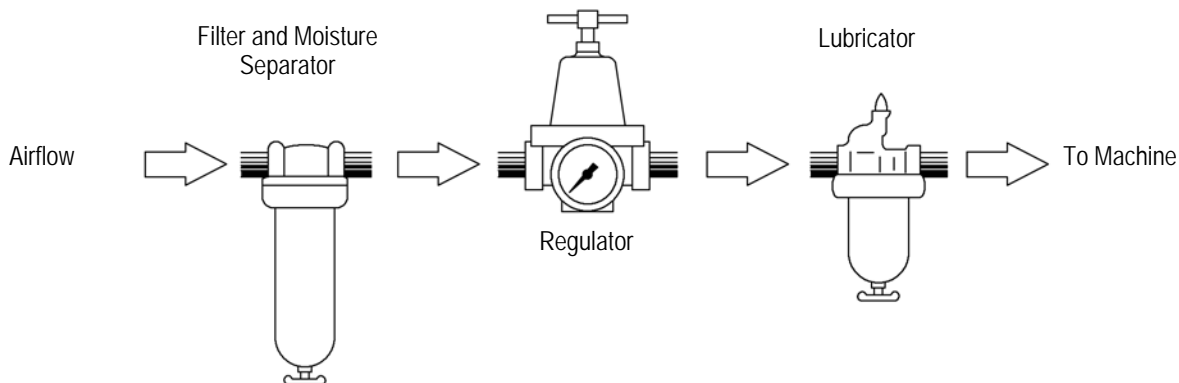

Figure 3
4. Connect the air tube to an approved air source. It is recommended that a filter-regulator-lubricator unit with the lubricator adjusted to the minimum setting be used with the power bench assembly. Refer to Figure 3. It is also recommended that quick-disconnect fittings are used to connect the tool to the air-supply. If not using quick-disconnect fittings, provide a pneumatic lock-out on the air line that bleeds air after it is turned off.